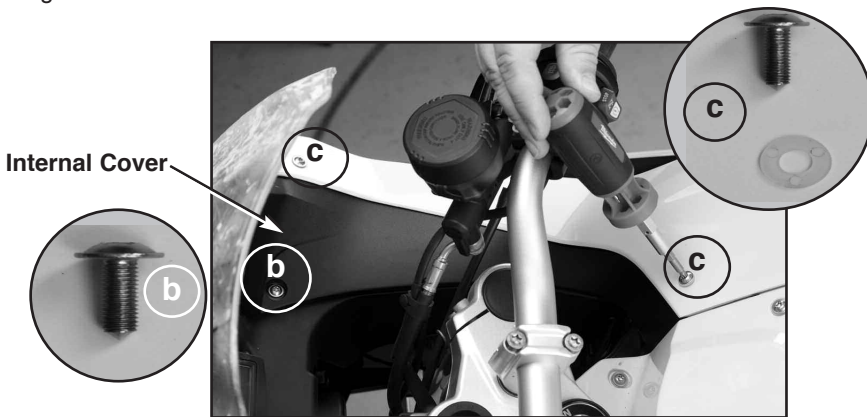

Figure 3
B. Remove the stock Screw (b) and the stock Screws and Washers (c) holding Internal Cover. Retain hardware, it will be re-used. **(T25Torx) Figure 3**